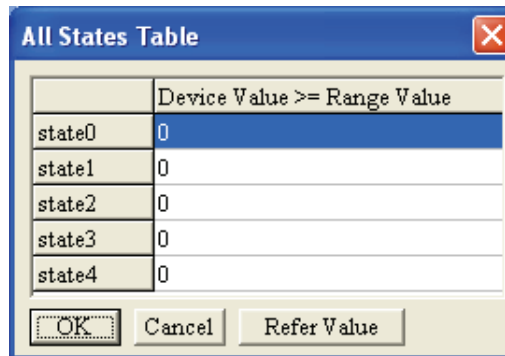

Figure 1-69
Step 4. When the users double click the field of “Device Value >= Range Value” by using the mouse, the following All States Table tab shown in Figure 1-69 will open for the users to set the setting range values of all states.